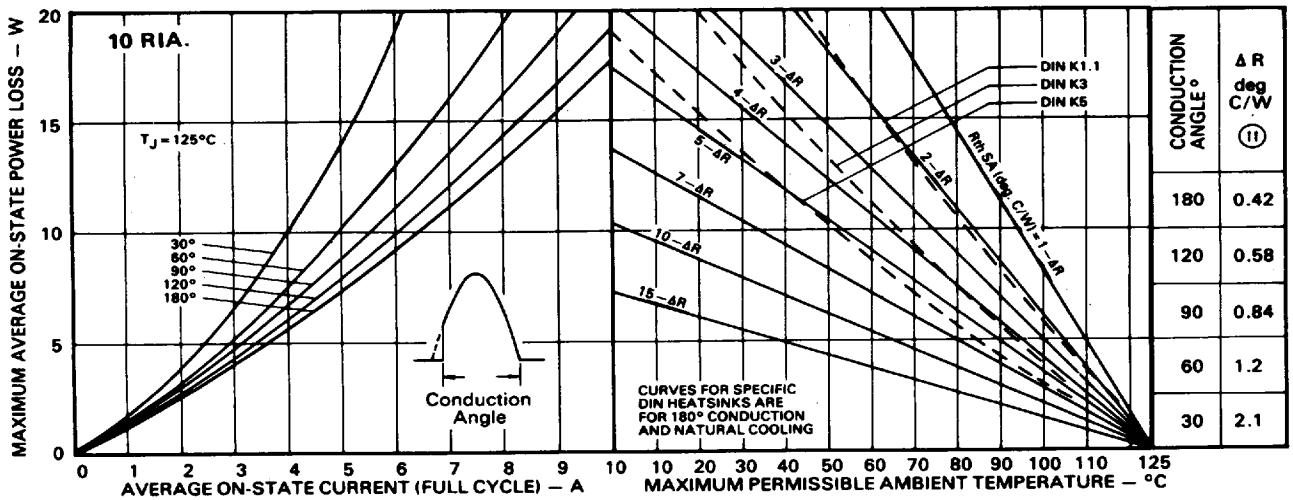

Fig. 1 - Continuous Current Rating Nomogram (Phase Angle Controlled Half-Sinusoidal Waveforms, 50-400 Hz), 10RIA Series.
① To determine required heatsink thermal resistance (R_{thSA}) in deg C/W use value of ΔR appropriate to conduction angle stated in table and substitute in formula $R_{thSA} = X - \Delta R$, e.g. for 10RIA at 180° conduction angle, 7.6A, and 60°C ambient temperature $R_{thSA} = 3 - 0.42 = 2.58$ deg. C/W (figs. 1 & 2)